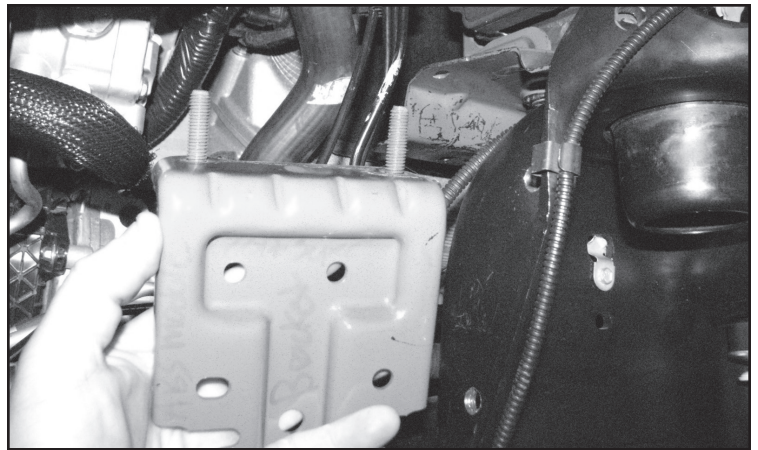

FIGURE 13 - STEP 14
14. Remove the driver side inner fender liner. Locate the ABS module mounted to the factory spring perch. Remove and save the bolt attaching the bracket to the front of the spring perch. Using a 13mm wrench remove the (2) nuts that attach the L bracket together. Then using the same 13mm wrench remove the nuts attaching the same bracket to the back side of the factory spring perch. Discard the factory bracket and save the hardware. **SEE FIGURE 13**